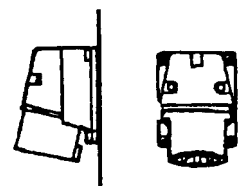

Figure 28 CEE male connector.
- 133*** 32 A, 380-415 V, 3p + PE (see Figure 28).
- 136*** 32 A, 380-415 V, 3p + N + PE (see Figure 28).